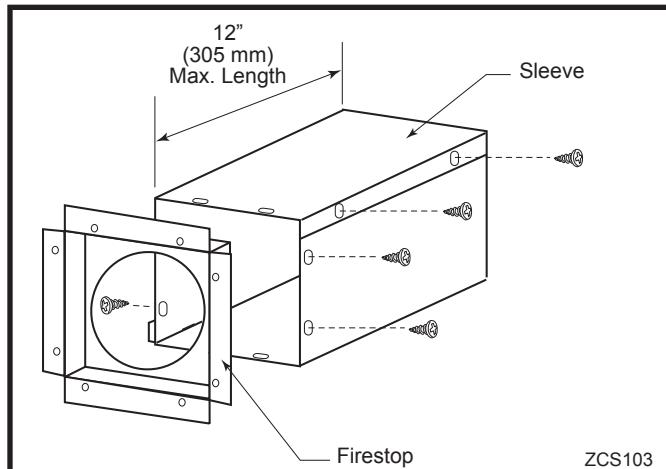

Fig. 23 Assemble the wall sleeve and firestop.
- Measure the wall thickness and cut the wall sleeve sections to proper length (MAXIMUM 12"). Assemble the sleeve with the #8 sheet metal screws supplied. Attach the firestop plate to the sleeve end with the holes. (Fig. 23) **NOTE:** The wall sleeve is required in combustible walls only.
- Install the Wall Firestop/Sleeve assembly into the wall cutout and fasten the firestop to the wall cutout framing members. (Fig. 23)